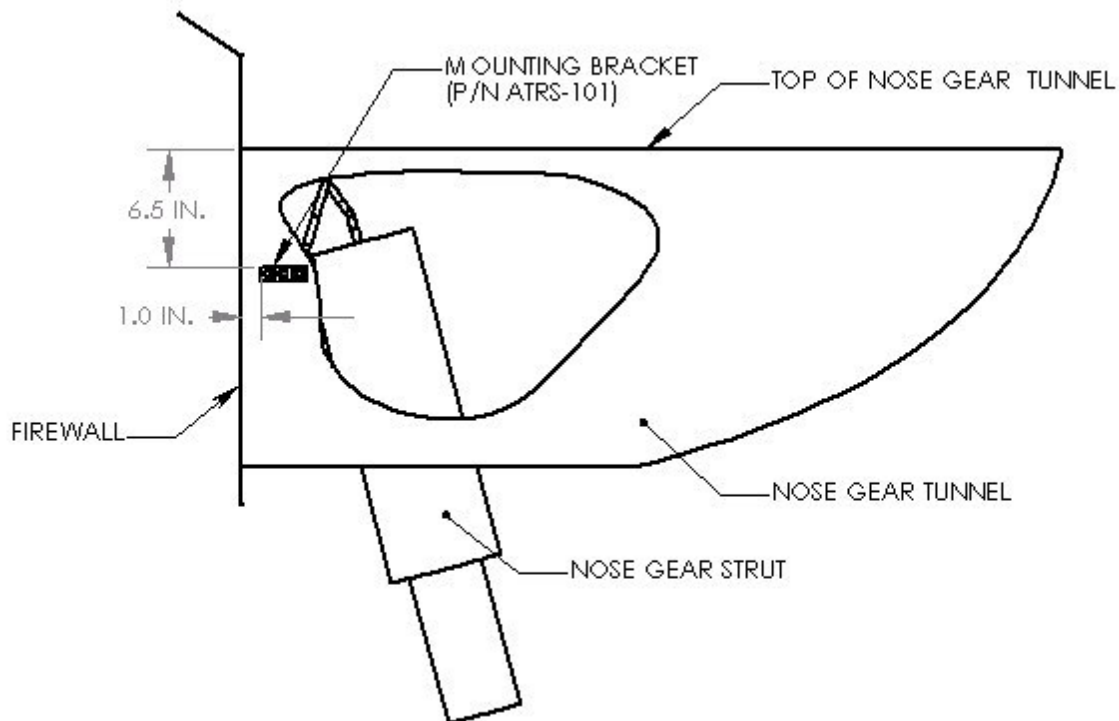
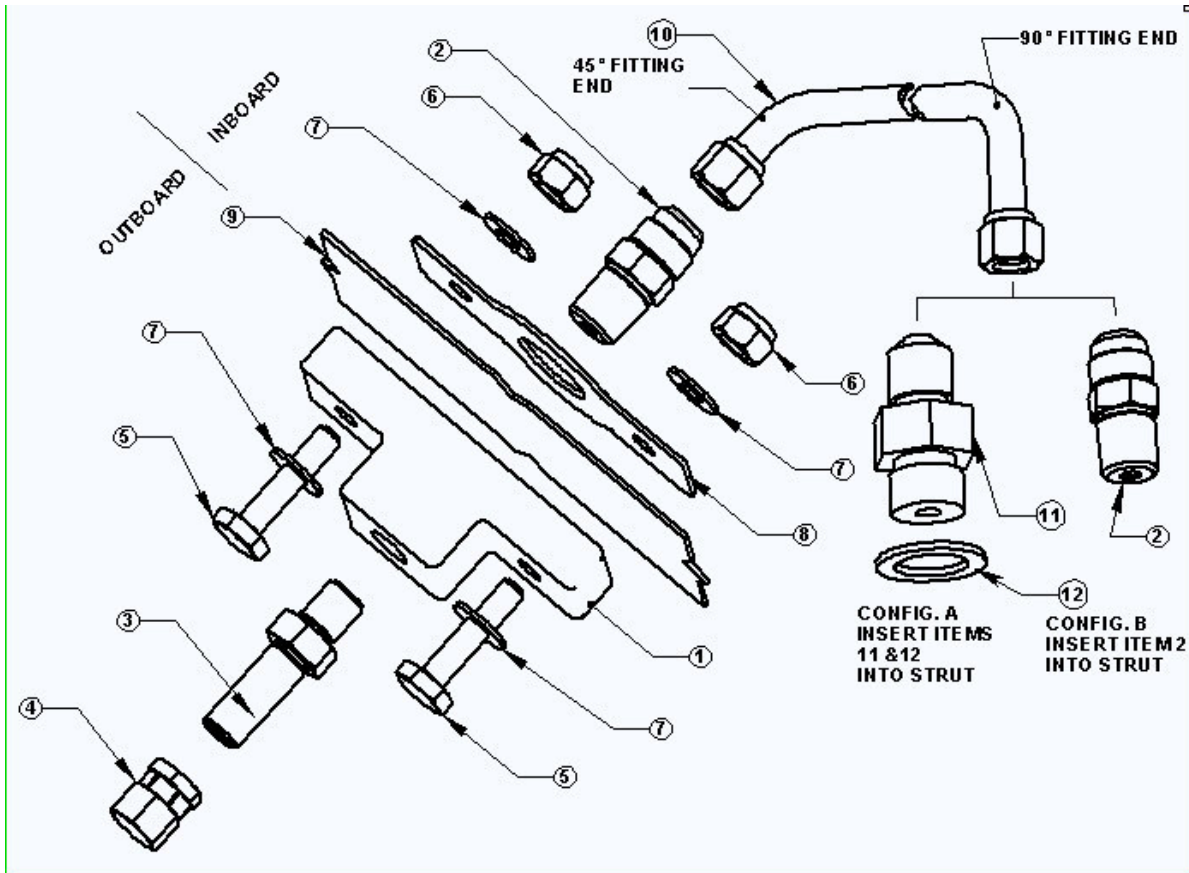

Fig. 1 Installation Location of Mounting Bracket
Fig. 2 Component Assembly of ATRS-100
4. Find correct installation location for P/N ATRS-100 on right side of nose gear tunnel, see Fig 1. This indicated location can vary slightly to ensure adequate fits and clearances.
8. Install kit components as shown in Fig 2, at locations shown in Fig. 1.